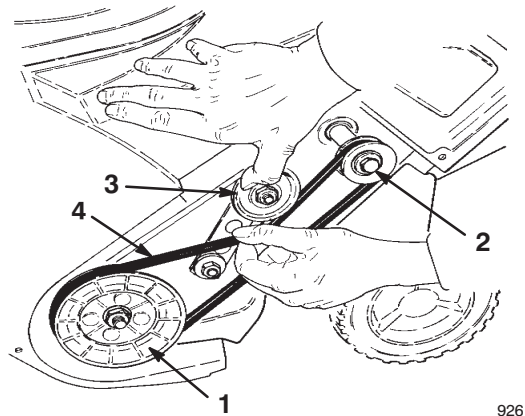

Figure 10
5. Pull the idler pulley up slightly while pulling out the drive belt. Allow the pulley to gradually release when it can move past the belt (Fig. 10).
6. Rotate the rotor and work the drive belt off the rotor pulley. The belt should slide easily off the drive pulley (Fig. 10).
7. Loop the new drive belt around the drive pulley. While holding the drive belt, slip it onto the rotor pulley and rotate the rotor until the drive belt is completely on the rotor pulley (Fig. 10).